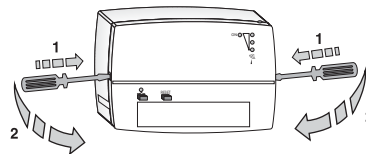

Fig. 3.i
- First on one side and then on the other, insert a screwdriver in the slots located on the sides of the product, exerting light pressure on the locking catch, then, with a small forward rotation of the screwdriver (as shown in figure 3.i), lift the front.